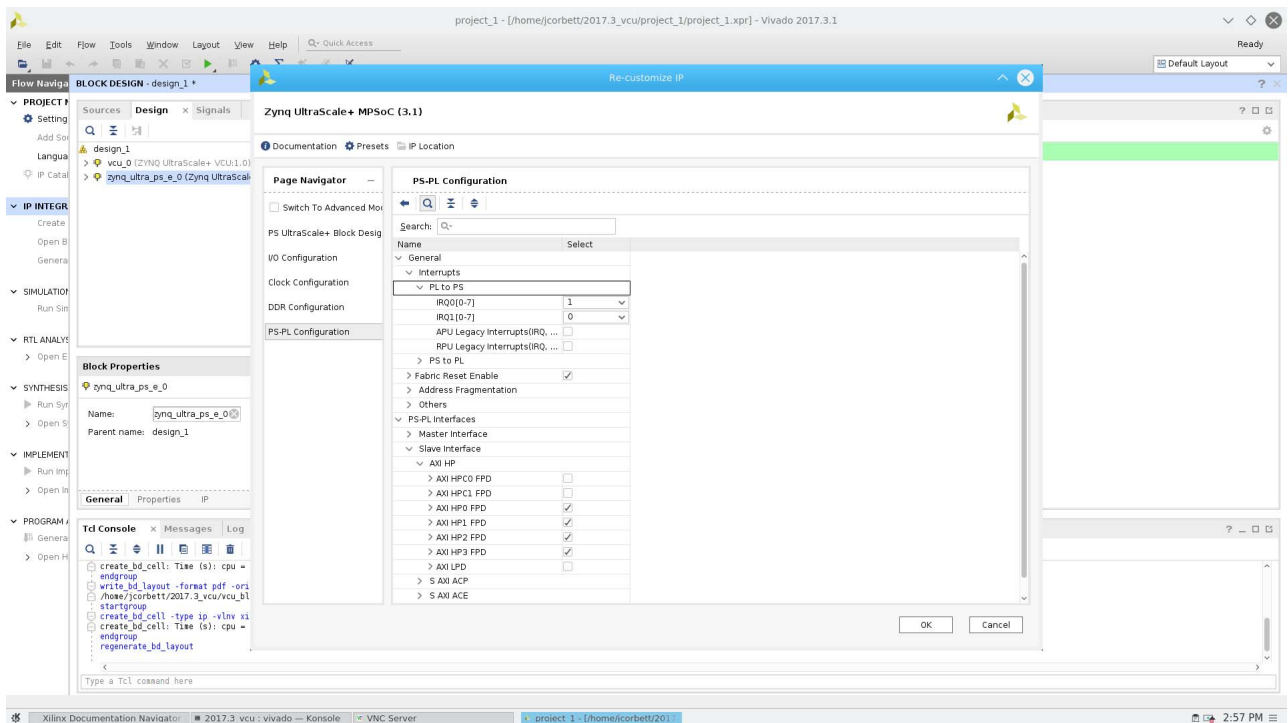

Figure 11-10: Output PL-PS Configuration
12. Enable IRQ0 [0-7] and HP0-3 ports as shown in Figure 11-10.